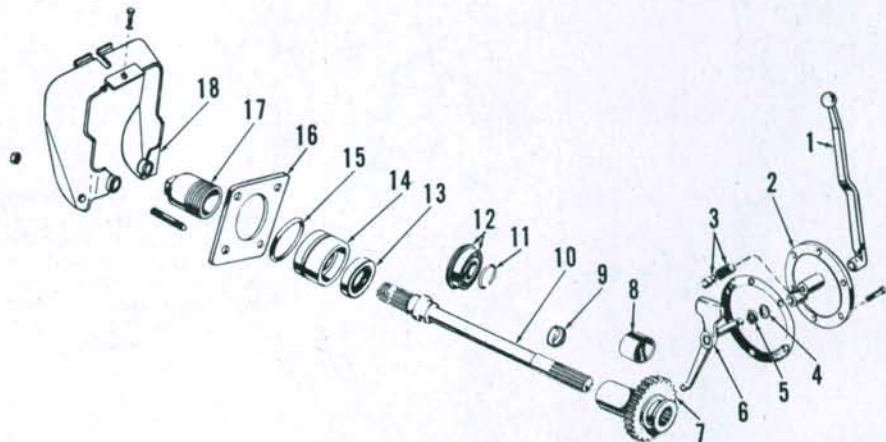

Fig. 245—Exploded view of live pto output shaft assembly and shift control unit used on some tractors.
**200. R&R AND OVERHAUL.** The pto output shaft (10—Fig. 245) can be